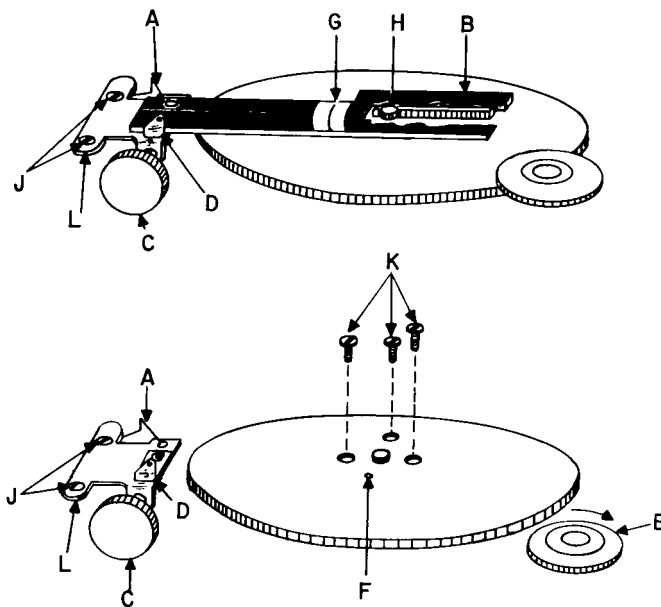

Figure 17. Disassembly of Receiver RR-6 dial mechanism.
(1) The receiver may be aligned in the field by replacing the a-m signal generator with the radiated signal from the calibrating crystal and by using the phone as an output indicator. The alignment procedure is the same as with the generator except that the bfo is turned on. The gain of the receiver must be reduced sufficiently after the beat is located to permit hearing a change of volume when the adjustments are made.
(2) If aligned on the image, the dial calibration will be off and large sensitivity variations will be noticed over the band. Aligning on an image or wrong harmonic of the crystal will result in an abnormal position of the coil slugs and trimmers. The slugs normally extend $\frac{1}{16}$ " to $\frac{3}{16}$ " beyond the end of the coil base. The slots in the trimmers are normally less than perpendicular to the long edge of the compartment. A slot perpendicular to the long edge would very likely indicate that the set is misaligned.
27. DIAL SCALE MECHANISM—DISASSEMBLY AND REASSEMBLY — (Refer to Figure 17)